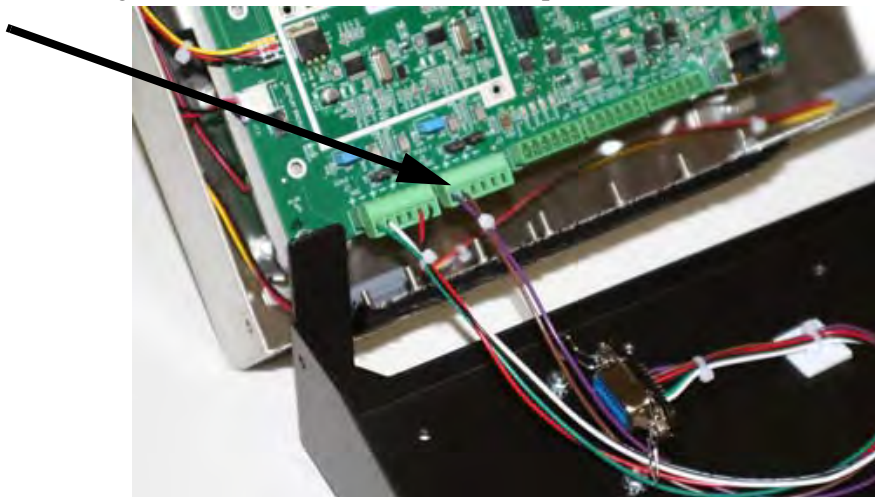

Figure 2-7. J2 Connector Location
3. Plug into the J2 connector on the CPU board (example shown in Figure 2-7).